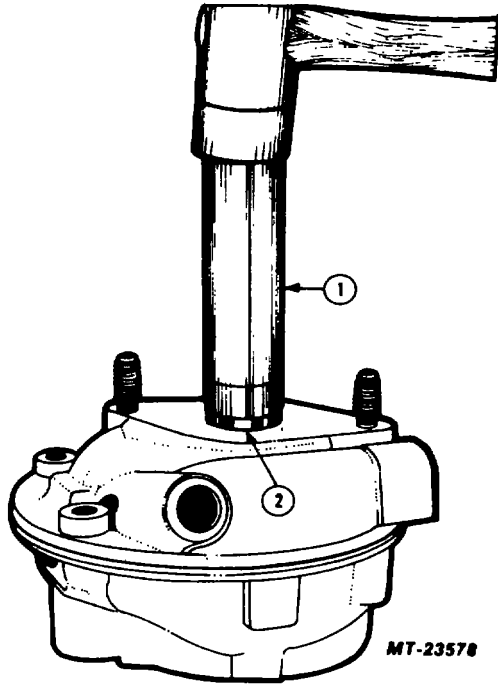

Fig. 23 Installing Shaft Seal
2. Install seal using Seal Installer SE-2840, Figure 23. Seal should be bottomed in seal bore but be careful not to crush seal cage.